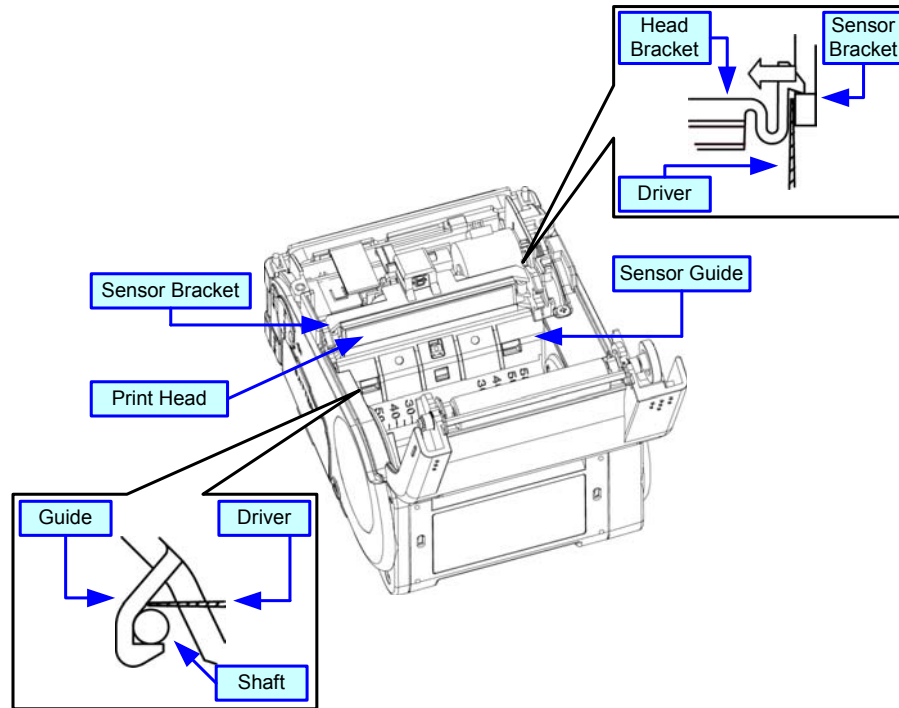

Figure 7-9a, Gap Sensor Replacement
- 3 Open the top housing cover to access the gap sensor (Figure 7-9a).